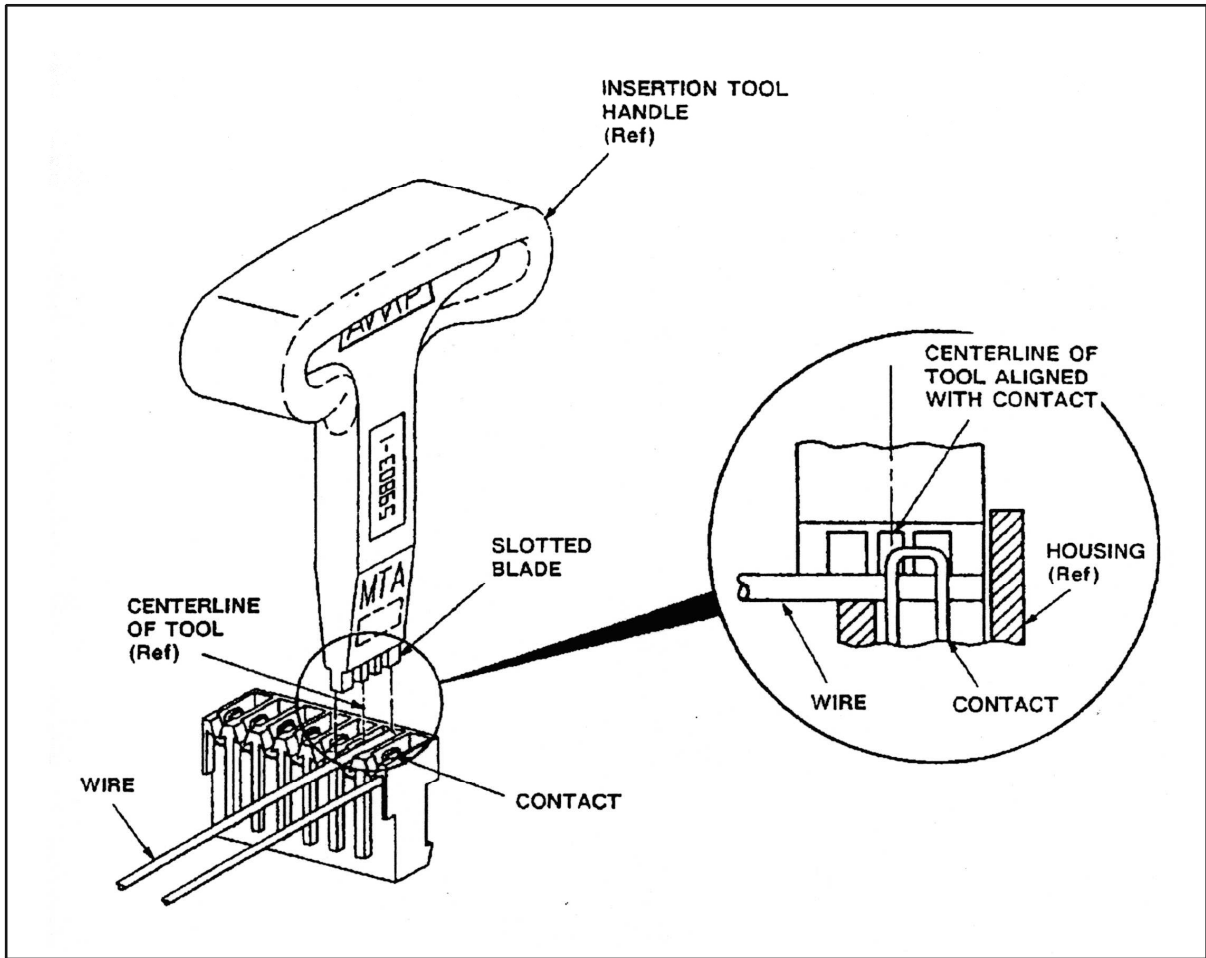

Fig. 2: Insertion Tool
4. Holding the tool handle perpendicular to the contact, apply a constant, direct pressure until the wire is terminated with the contact. Exert pressure in such a manner as to avoid contact damage. See Fig. 2.